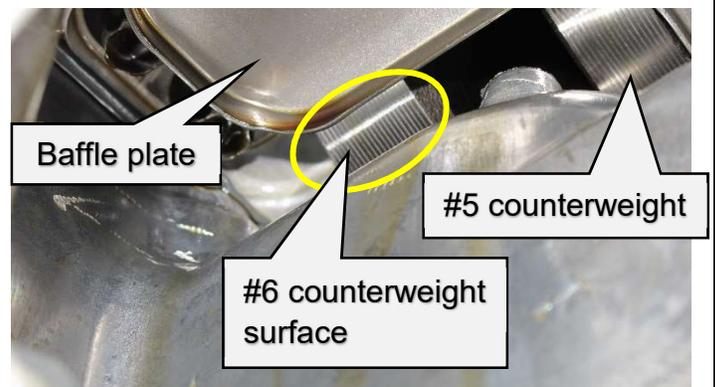

Figure 11
- Locate round edge of baffle plate; the crankshaft counterweight surface will be located behind the baffle plate (Figure 11)